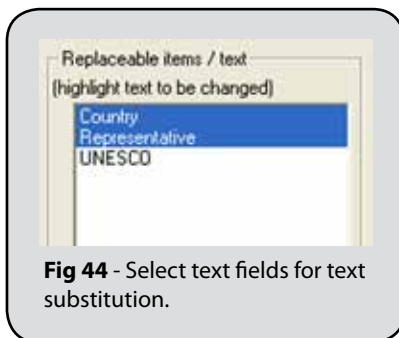

Fig 44 - Select text fields for text substitution.
2. In the **Replaceable items / text** list, click each item for which text replacement should be applied. For this example, only the first two text fields have been selected. (Fig. 44)